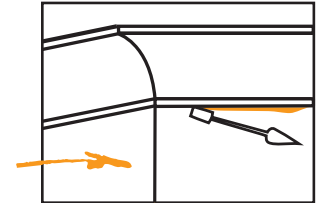

FIGURE 15
- Clean off excess and remove nails when cement has partially set. [Figure 15]